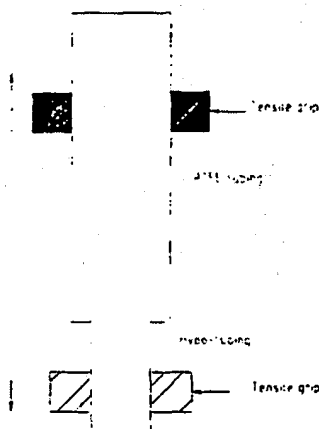

Fig 1.0 Set up for testing PTFE integrity
7.7.1 Each unit will be tested as per Lloyd LRX tensile test machine using calibrated 20N load cell for testing the sub-component. The test set up is illustrated in fig1.0.